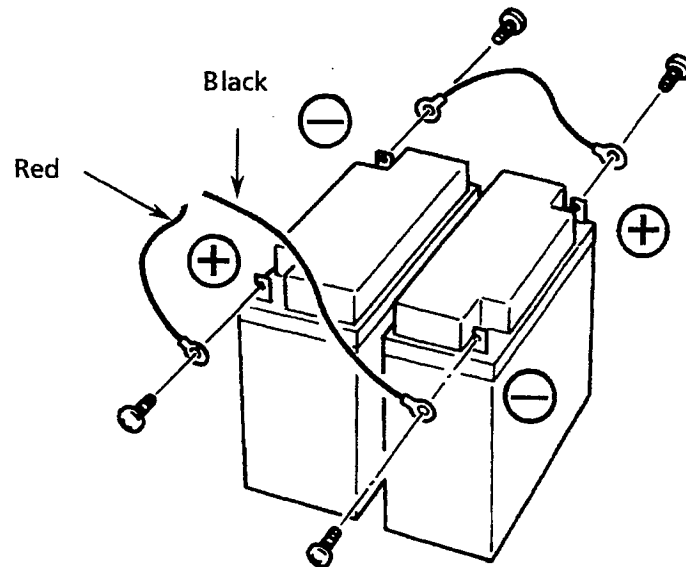

Figure 3-61 Connecting the Expansion Cable and Battery
1. Connect the external battery cable to the battery. Refer to Figure 3-61 - Connecting the Expansion Cable and Battery.